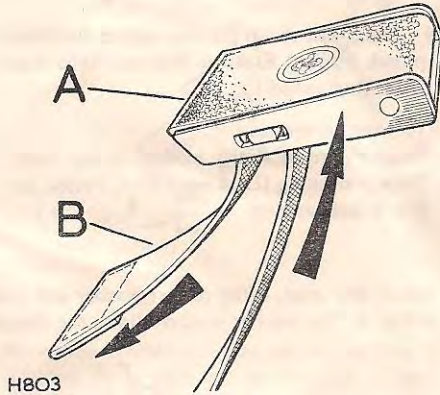
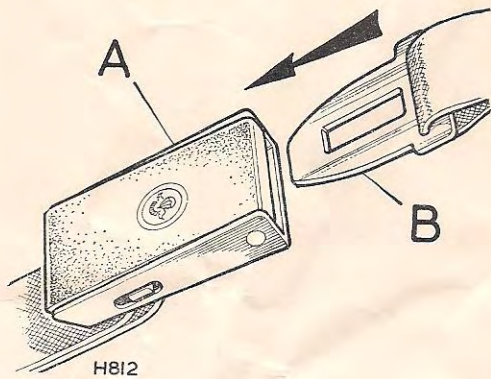

Fig. 7 Showing adjustment of tongue strap
Fig. 9 Showing safety harness connections
10. Adjust the position of tongue strap buckle to the position shown, that is, with the buckle as far round the body as possible without actually fouling the seat, by pulling strap 'B' to shorten the tongue strap, as shown at Fig. 7.
Insert diagonal strap lug 'B' into tongue strap buckle 'A' to secure the safety harness. See Fig. 9. Pull strap 'B' to tighten. See Fig. 7.